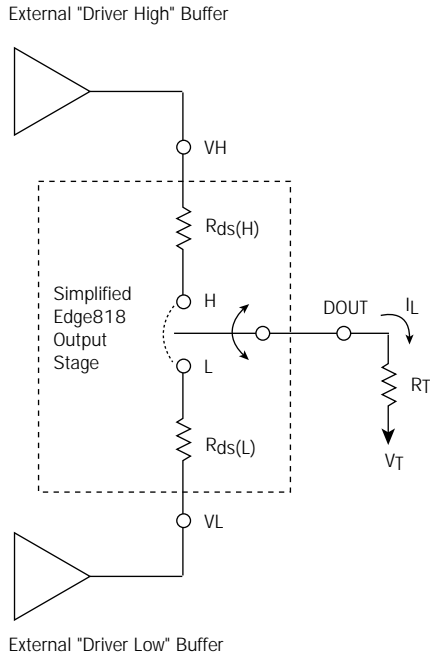

Figure 6. Simplified Functional Schematic of Edge818 Output Stage and External Buffers
In addition to the VCC and VEE power supply levels, the “driver high” (VH) and “driver low” (VL) levels used in an application also have an effect on the total power dissipation of the device illustrated using Figure 6.
The CMOS switches of the Edge818’s output stage have on-resistance values (depicted by $R_{ds(H)}$ and $R_{ds(L)}$ in Figure 6) that vary as a function of V_H and V_L voltage levels. The amount of current required by the load impedance, R_T , is also a function of the V_H and V_L voltage levels as follows:
Switch in Figure 6 is in position “H”:
Switch in Figure 6 is in position “L”: